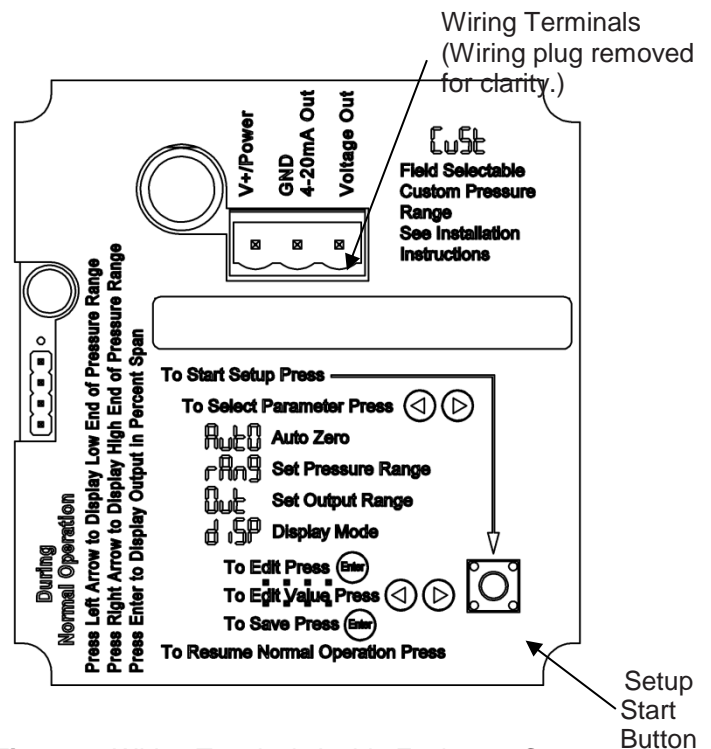

Figure 4: Wiring Terminals Inside Enclosure Cover
1. Open the enclosure cover and press the Setup Start Button on the lower right of the circuit board. (See Figure 4)